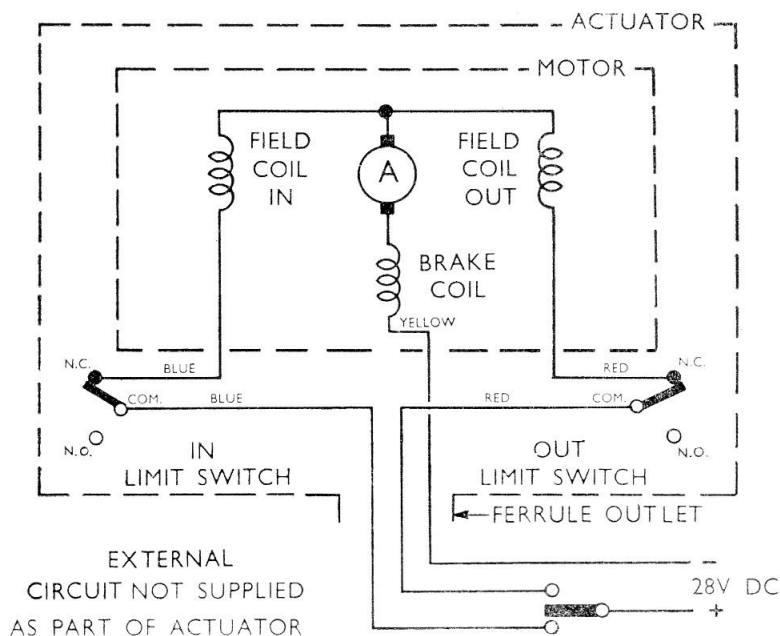

Fig. 3. Circuit diagram
3. These particular variants have built-in mechanical stops which, in the event of a switch or wiring fault, prevent the plunger exceeding the set stroke in either direction. Electrical connections to the actuators are made with ferrule outlets and Tripren sheath cables; the internal connections are shown in fig. 3. The differences between the Type 1CZ 136410/2 and the 1CZ 82950/1 are in the plungers, to facilitate a difference in stroke lengths, and in the end fittings.